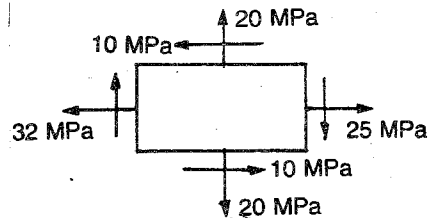

Fig. 2.24
- (10) Solve the above problem using Mohr's circle.
- (11) A plane element is subjected to the stresses shown in figure 2.24. Determine analytically or Graphically (a) the principal stresses and their directions (b) the maximum shearing stresses and the direction of the planes on which they occur.